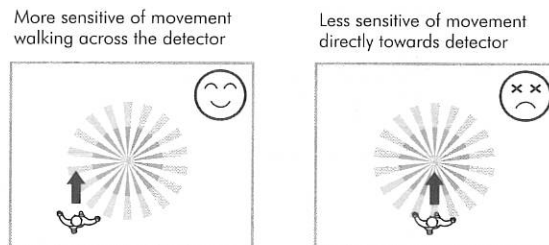

FIG.3
3.1.2 Pay attention to the walking direction in the test proceeding. It is more sensitive to movement across the detector and less sensitive to movement directly toward to detector which will reduce the detection coverage (See FIG.3).